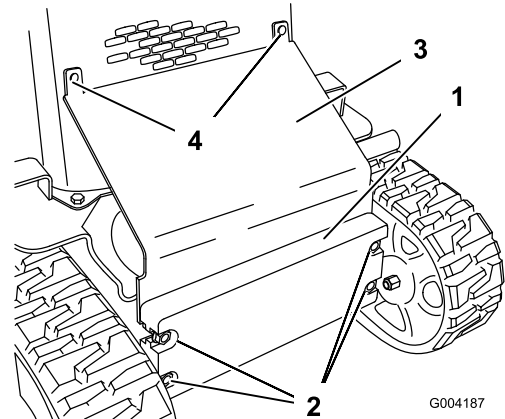

Figure 20
2. Loosen the bolts securing the front weight (Figure 20).
3. Remove the carriage bolts and nuts securing the heat shield (Figure 20).
10. Slide the heat shield between the frame and the front weight and secure it to the front screen grill using the carriage bolts and nuts removed previously (Figure 20).
11. Tighten the bolts securing the front weight (Figure 20).